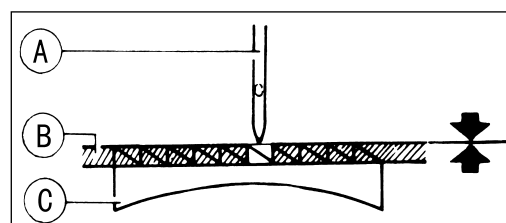

Fig. 26
19. TIME FEED MOTION TO NEEDLE MOTION (Fig.26,27,28)
The standard timing of feed motion to needle motion is that the top of feed Dog (C) is flush with Throat Plate Surface (B) when the point of Needle (A) reaches Throat Plate Surface (B). See Fig.26 .